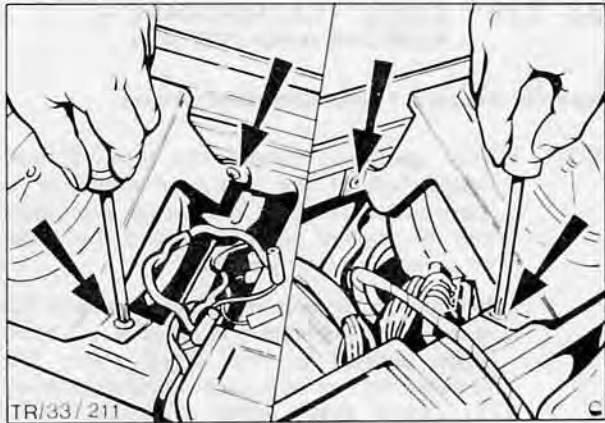

Fig. 22. Removing securing screws
2. Unscrew four cross-head screws securing tachograph and bracket to facia panel, Fig. 22.